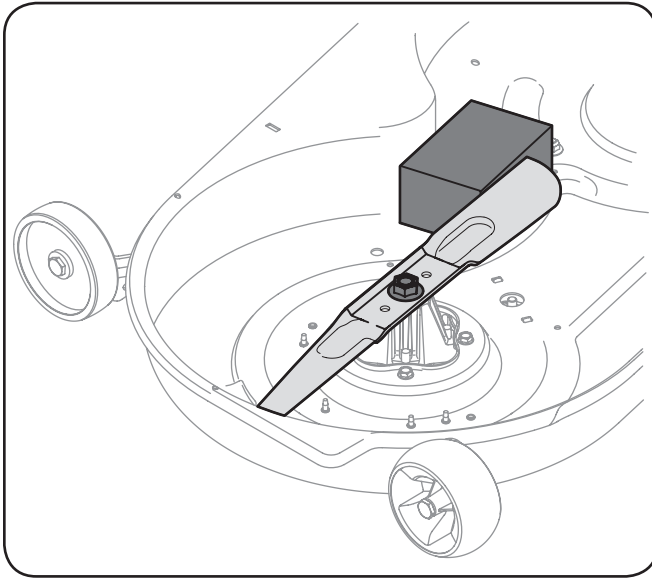

Figure 7-5
- Place a block of wood between the center deck housing baffle and the cutting blade to act as a stabilizer. See Figure 7-5.
- Remove the hex flange nut that secures the blade to the spindle assembly. See Figure 7-5.